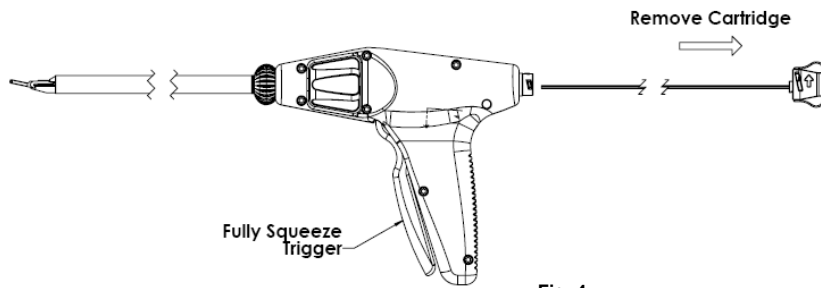

Fig. 4
1. Remove and discard the disposable clip cartridge by fully squeezing the trigger against the handle as shown on Fig.4. If all clips have not been fired, squeezing the handle and removing the cartridge will engage and release one clip. In this case, make sure to fire the engaged clip onto something such as a drape, so that the contaminated clip does not fall onto the floor, stick to the jaws or fall inside the instrument shaft potentially causing a jam or safety hazard. (This step serves as a warning note on the "Cleaning and Sterilization" steps. Microline shall not be responsible for any damages occurring as a result of a non-compliance with this warning).